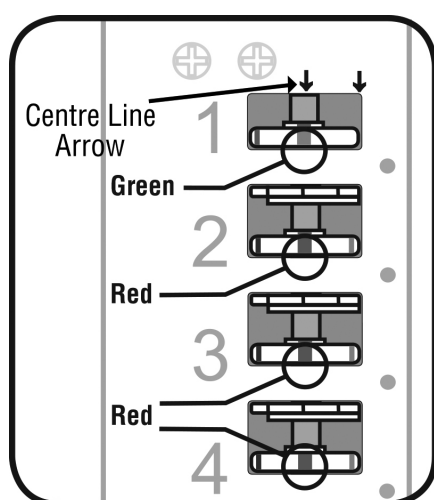

Fig.1
- 3 With the coding chamber reset you will see that the coding discs are set to what the keypad is currently coded to. If for instance the unit is coded to 11234; the number 1 disc will have the green marker of the coding disc lined up with the centre line arrow on the cover plate (**as per fig.1**).